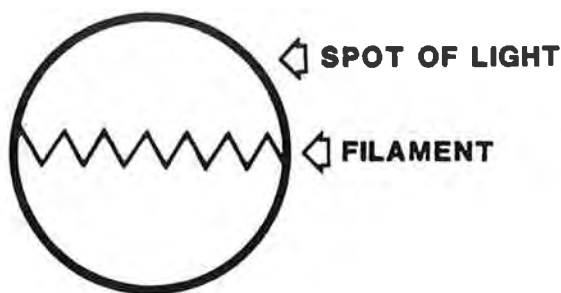

figure 1
(D) For stereo installations remove the mono solar cell and place a white card about an inch away from the sound lens. The image of the exciter lamp filament should look like figure 1. If necessary, raise or lower the lamp and move it in and out until the filament is centered in the spot of light.